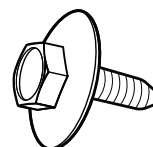

Figure: 3
- Attachment 3: Align the rectangular hole in the side shield with the toe panel screw hole. Insert the Toe Panel Screw (see figure 3) and Loosely tighten it to hold it in place until the Toe Panel is installed.